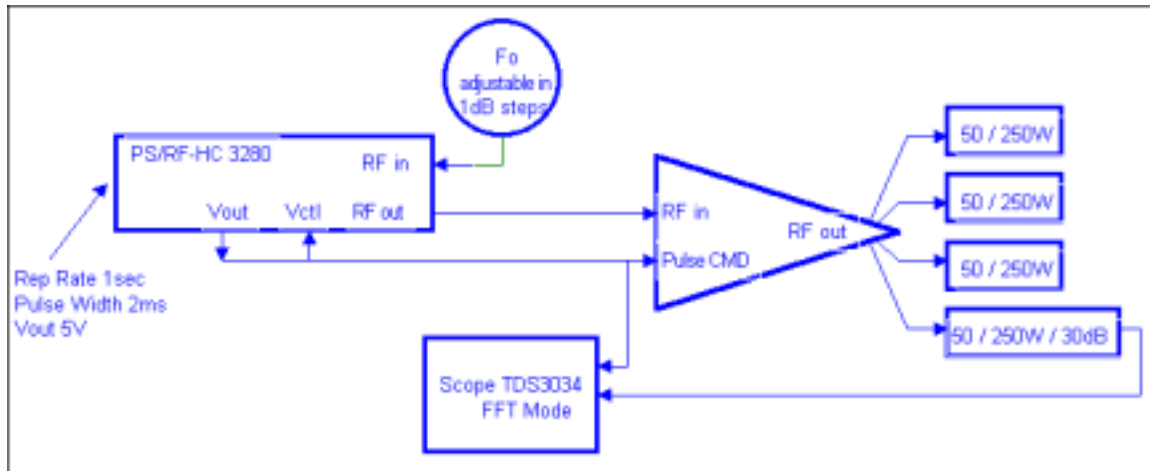

Figure 11 – RF Burst Mode Test Set up
6.7	Using the rf burst mode test set-up shown in fig.11 measure the 1dB compression point at 200 kHz, 1 MHz, 10 MHz and 20 MHz (reference values in table 2).